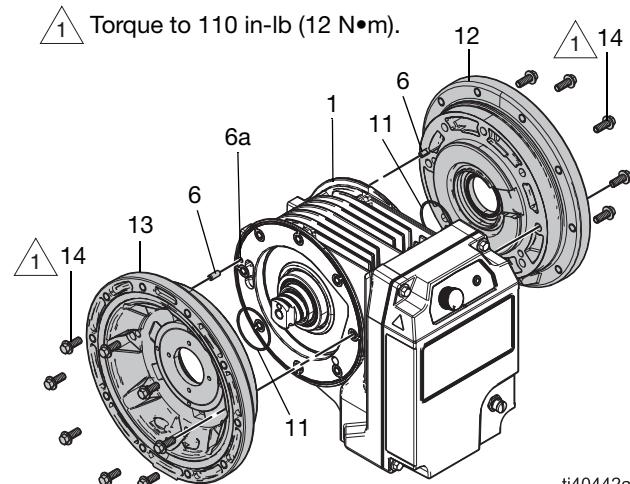

Fig. 23: Center Section, Load-side
4. Install the seal (47) on the hub (8).
5. Assemble the other seal (11) to the hub (8).
6. Install the preload nut and hub (9, 8) on the load-side cap (13):
- a. Apply anti-sieze to the threads of the hub (8).
- b. Thread the preload hub (8) onto the load-side stator cap (13). Ensure the lips of the preload hub (8) face toward the center of the rotor (7).
- c. Spin the hub (8) until the seal (47) touches the bore of the cap (13).
- d. Install the load-side stator cap (13) onto the stator housing (1). First, install the seal (11) in the stator cap (13). See FIG. 23.
- e. Align the pin (6) in the stator cap (13) with the pin hole (6a) on the stator housing (1) and gently insert the stator cap (13). Ensure the stator cap is properly set in place. See FIG. 23.
- f. Install the fasteners (14) into the stator cap (13). Torque to 110 in-lb (12N•m). See **Torque Instructions**, page 18.
- g. Insert the preload hub installation tool into the preload hub (8).
- h. Use an applicable wrench on the preload hub installation tool to torque the preload hub (8) to 20 ft-lb (27 N•m).